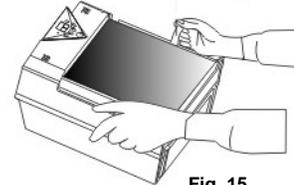

Fig. 15
4. To remove the HEPA filter, pull up on the tags on either side of the filter and lift upwards. (Fig.15)